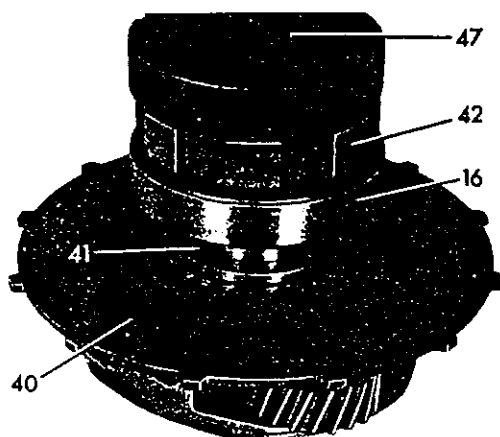

Fig. 14
- 18** Mount sun gear (40) and thrust washer (41), with offset end of thrust washer facing sun gear (Fig. 14).
- 19** Press-on ball bearing (16) and parking lock gear (42) with assembly mandrel (Fig. 14).